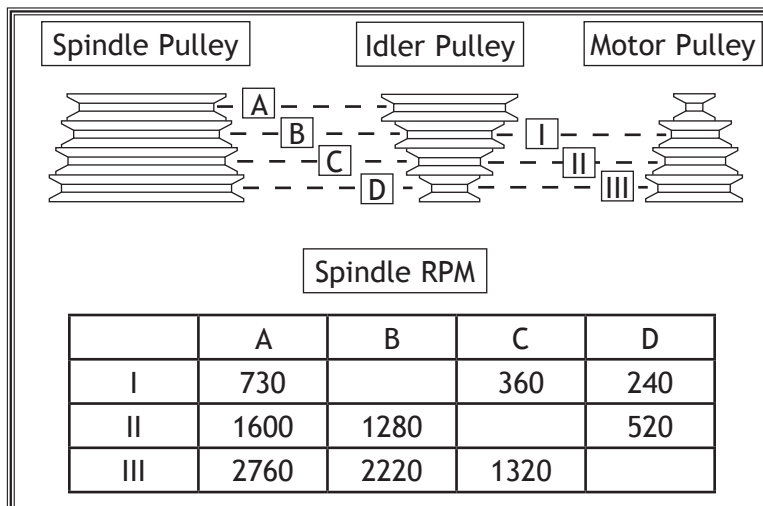

Figure 24. M1001 Spindle speed chart in RPMs.
1. Examine the **Spindle Speed Chart** in **Figure 24** to find the closest match to your needed RPM.